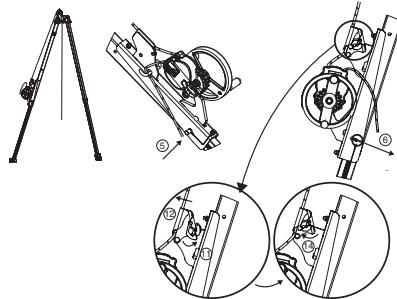

Fig. 9
IMPORTANT: Please pay attention to the assembly direction: the halyard blocker must be directed toward the top of the tracpode tripod (Fig. 9).
5. Insert the Derope™ UP R console locking pin. This locking pin fulfils two functions: locking the foot of the tracpode tripod and docking the Derope™ UP R console onto this leg (Fig. 9, 5).
6. Lock-off the docking pin with the split-pin (Fig. 9, 6).
11. Open the halyard clamp in the console (Fig. 9, 11).
12. Insert the halyard coming out of the Derope™ device into the halyard clamp on the console (Fig. 9, 12).
14. Close the halyard clamp in the console (Fig. 9, 14).